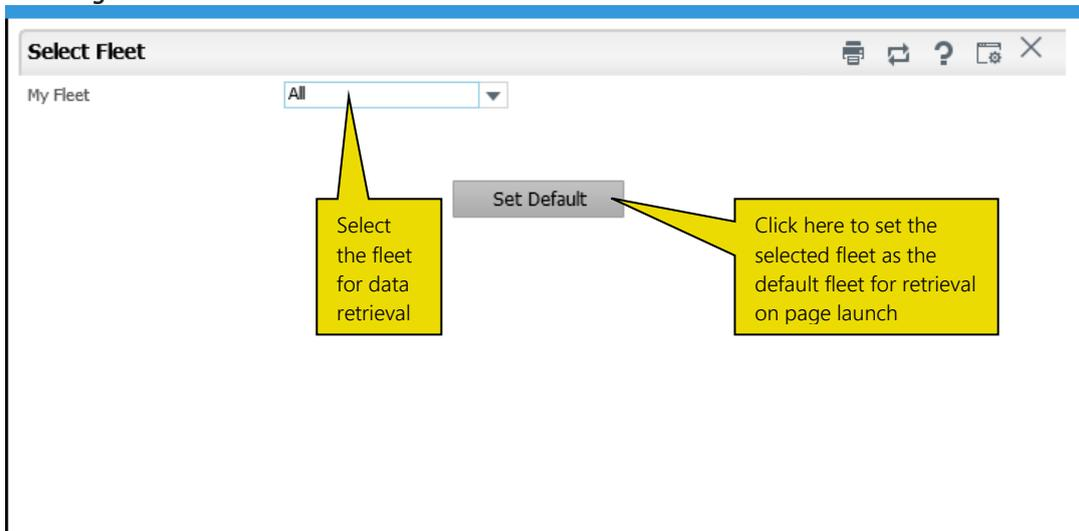

Figure 2.3: The Select Fleet popup
- Click the icon to open the Select Fleet popup to select the fleet for which you want to retrieve details in the hub. See *Figure 2.3*.